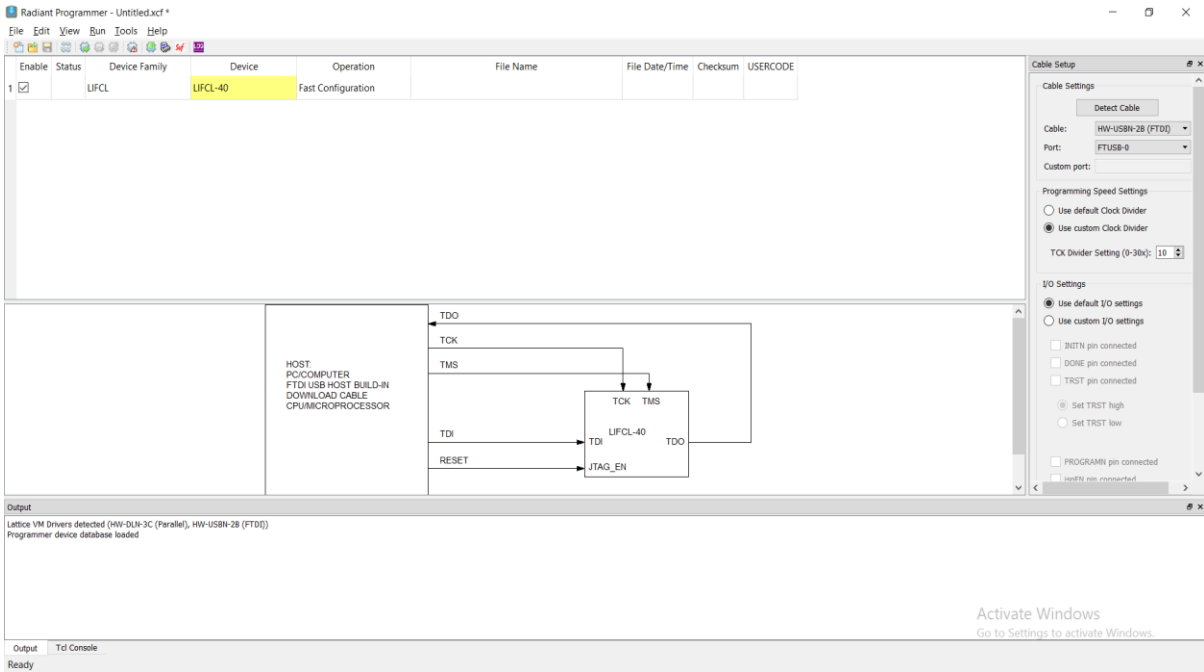

Figure 6.2. Radiant Programmer Window with a Selected Project Opened
4. You can see the selected project opened in the Programmer (Figure 6.2).